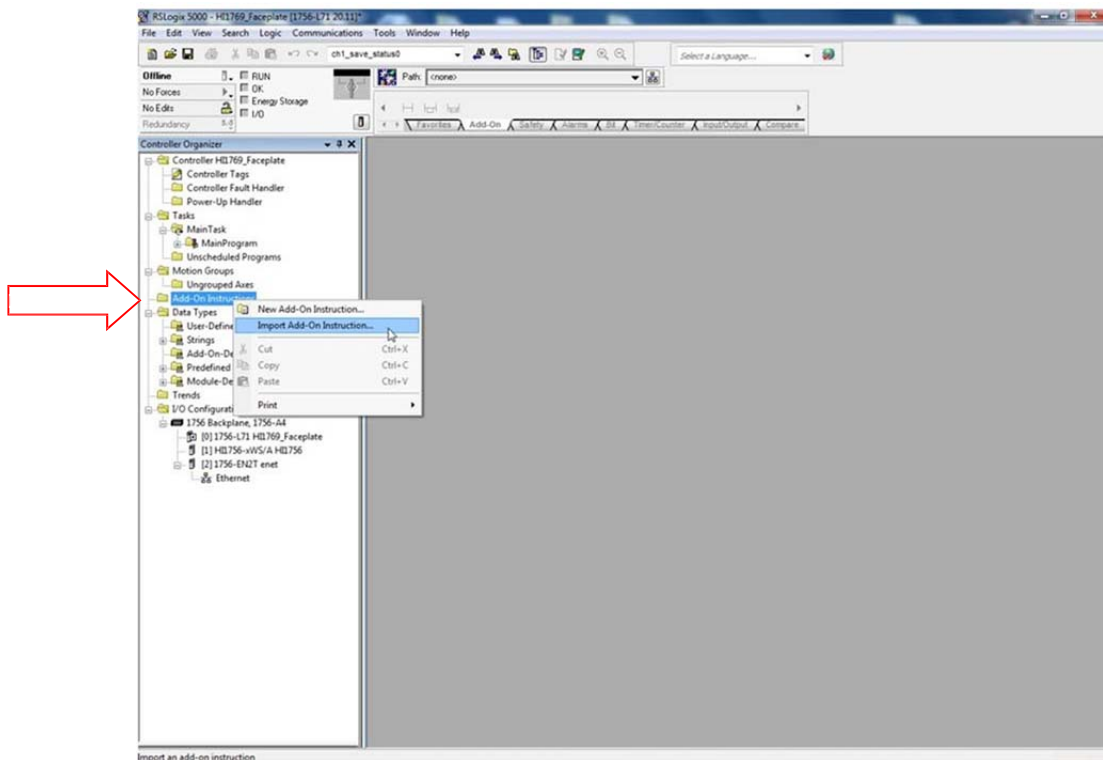

Figure 1
- Import the HI 1756WS_AOI. See Figure 1.